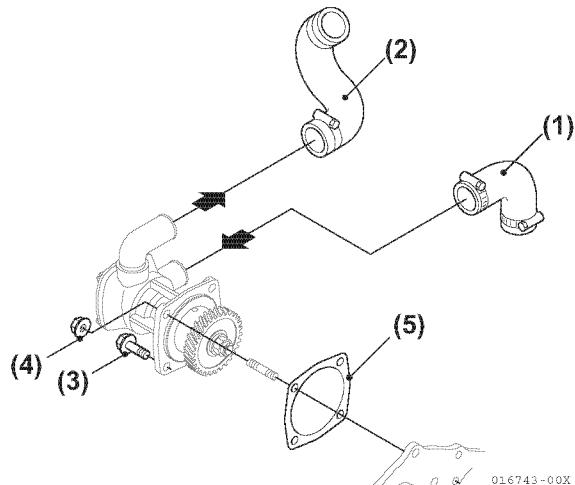

Figure 7-35
17. Install the seawater pump assembly with new gasket (**Figure 7-35, (5)**) to gear case.
2. Disconnect seawater supply hose from seawater pump (**Figure 7-35, (1)**).
3. Disconnect seawater pump-to-heat exchanger pipe (**Figure 7-35, (2)**).
4. Remove three bolts (**Figure 7-35, (3)**) and one nut (**Figure 7-35, (4)**) then remove seawater pump.
- Note: When installing, use the new gasket (**Figure 7-35, (5)**).